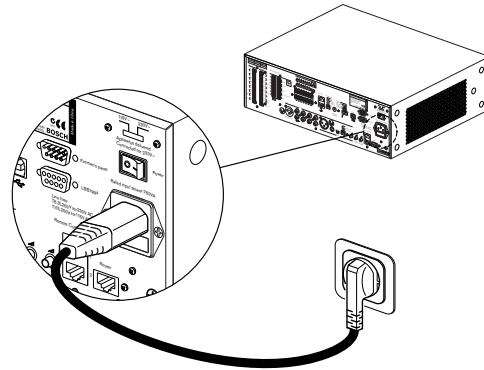

Figure 5.17 Connecting the mains cord
3. Connect a locally approved mains cord to the voice alarm controller (see *Figure 5.17*).
4. Connect the mains cord to a locally approved mains outlet (see *Figure 5.17*).